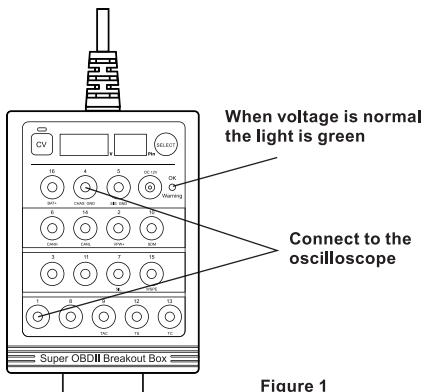

Figure 1
1. Connect the OBDII male connector with the OBDII diagnostic socket on the car, as shown in Figure 1, if the power supply voltage is in normal condition and the ground wire connection is not faulty, the power light will light up with green LED.
2. If you want to use an oscilloscope to analyze the signal waveform of PIN 1, as shown in Figure 1, directly connect the ground wire of the oscilloscope with the PIN4 (ground wire) on the host panel, and connect the signal input of the oscilloscope probe with the PIN1 of the host panel to test the signal of the PIN1.